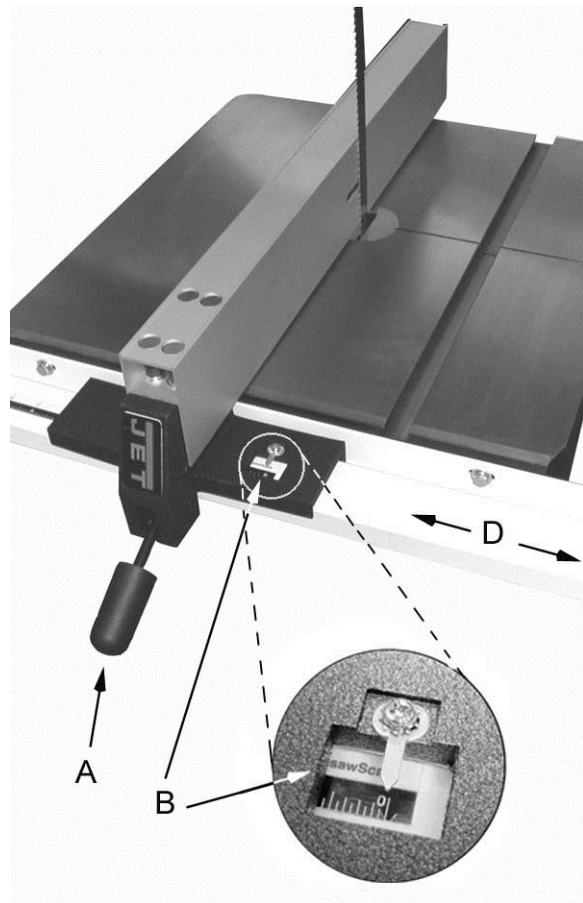

Figure 12
8. Move the fence assembly to the other side of the blade as shown in Figure 12 so that the *pointer* (B, Figure 12) on the fence body points to zero on the scale. Lock the fence by pushing down the *handle* (A, Figure 12).
9. Move the guide rail (D, Figure 12) with the *locked fence* until the fence is flush against the blade (C, Figure 12). Do not unlock the fence to perform this. Move the fence and guide rail together when establishing the zero point.